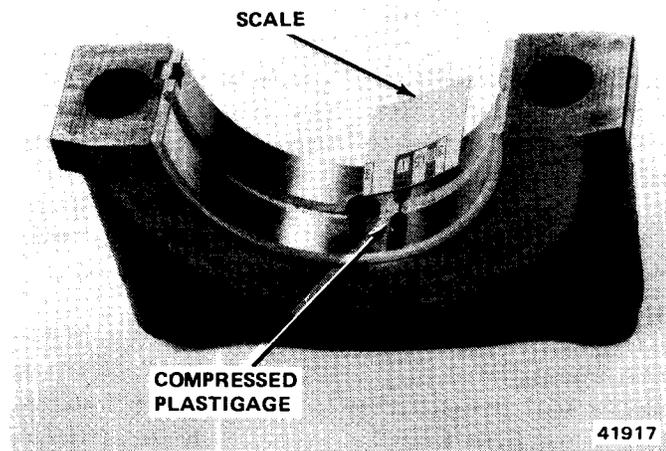

Fig. 1A-47 Checking Main Bearing Clearance with Plastigage
(2) Remove main bearing cap and insert.
(3) Clean insert and exposed portion of crankshaft journal.
(4) Place strip of Plastigage across full width of bearing insert.
(5) Install bearing cap and tighten bolts to 80 foot-pounds torque.
(6) Remove bearing cap and determine amount of clearance by measuring width of compressed Plastigage with furnished scale (fig. 1A-47).